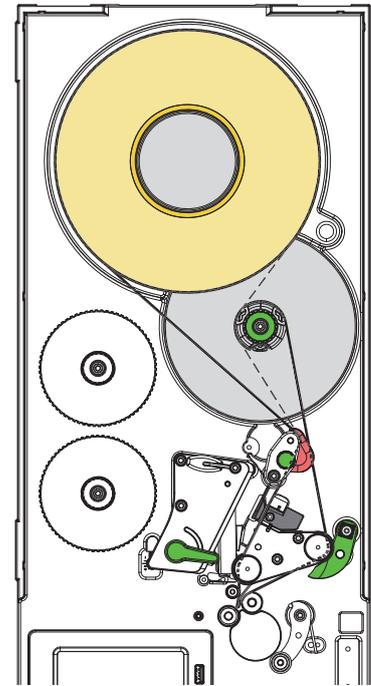

Figure 9 Label feed path
1. Put the label roll (5) onto the roll retainer (6).
3. Turn lever (2) counterclockwise to lift the printhead (1).
4. Unlock the pinch roller (12) from the rewind assist roller (13).
6. Guide the label strip as shown in Figure 9 through the label sensor (3), around the dispense plate (14) and the rewind assist roller (13) to the rewriter (8).
7. Adjust the guide (10) with the knob (4) in such a way that the label strip will be guided without clamping.
8. Hold rewriter (8) firmly and turn knob (7) clockwise until it stops.
9. Push label strip under a bracket (9) of the rewriter (8) and align the outer edge of the label strip to the label roll.
10. Turn knob (7) counterclockwise until it stops.